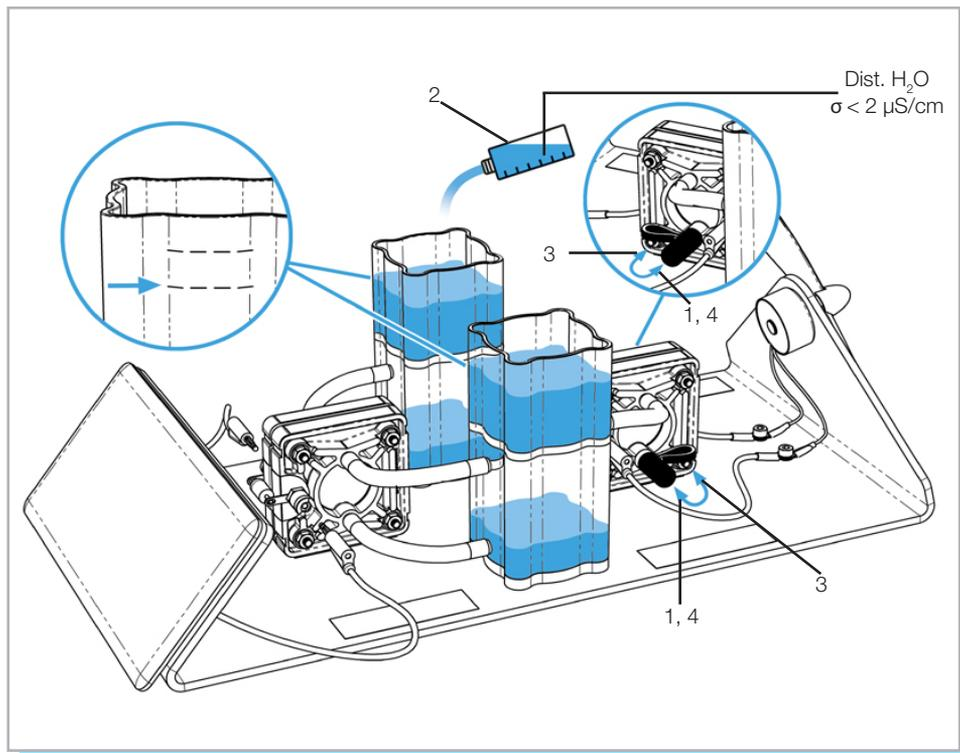

Fig. 4: Filling
- 2. Fill both gas storage tanks up to the lower fill level marking with distilled water ($\sigma < 2 \mu\text{S}/\text{cm}$) as shown in Figure 4.